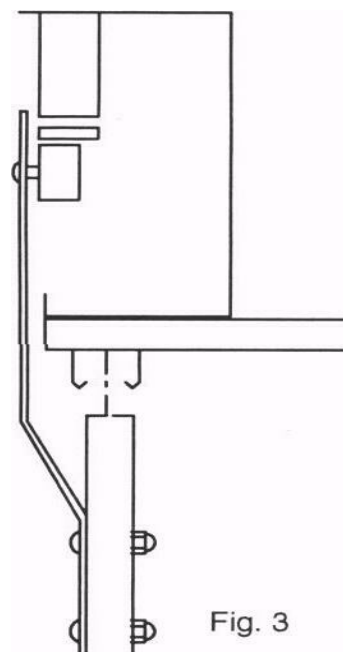

Fig. 3
11. Attach the operator to cartop. #12 x 3/4 screws are provided for wood cartops. Attach the gate arm with 1/4" -20 x 1 1/4" carriage bolts and acorn nuts. See Fig. 3